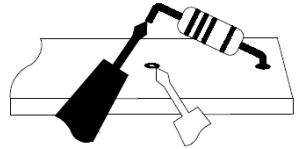
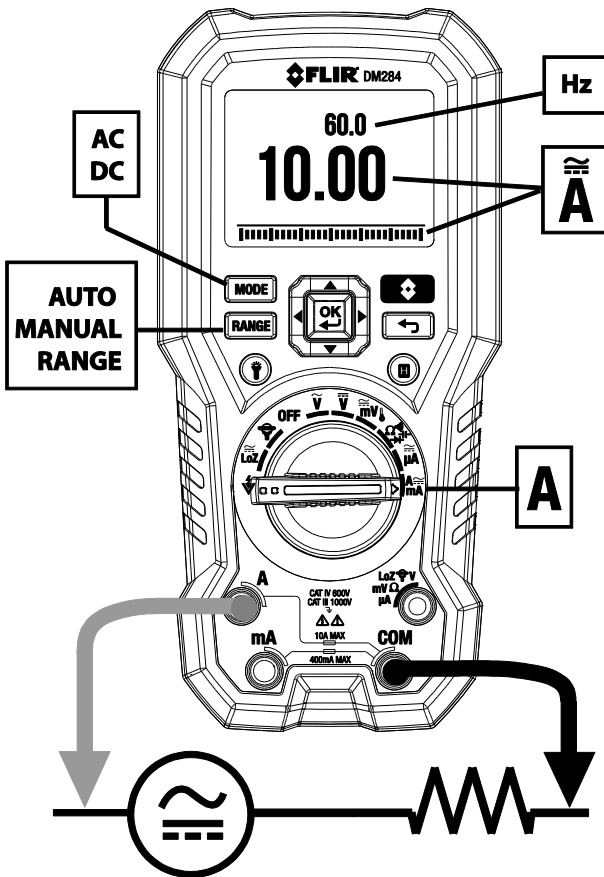

Fig. 7-8 Disconnected component
Fig. 7-9 High Current 'A' Measurements
For test lead current measurements, disconnect the part under test and connect the test leads in series with the part, see **Figure 7-8**.
4. Connect the probe leads in series with the part in accordance with **Fig. 7-8** and **Fig. 7-9** for 'A' measurements, **Fig. 7-10** for mA measurements, or **Fig. 7-11** for μ A measurements.